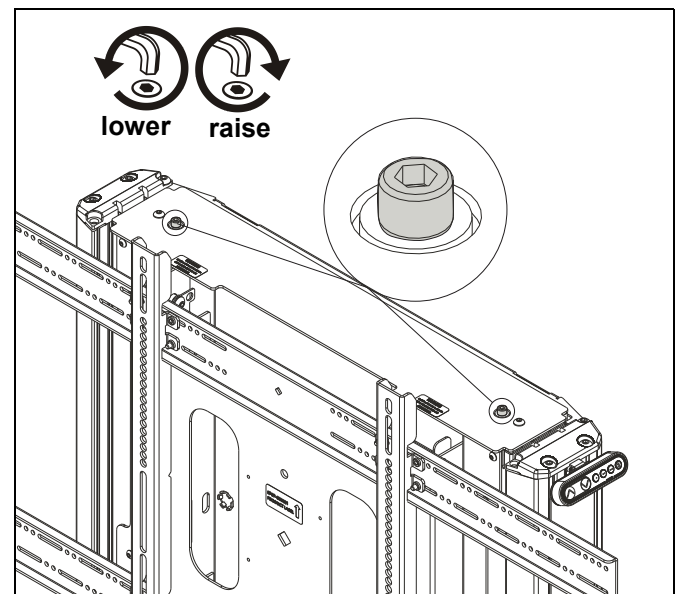

Figure 16
1. Use 3/16" hex key to adjust leveling adjustment screws on top of cart. (See Figure 16)